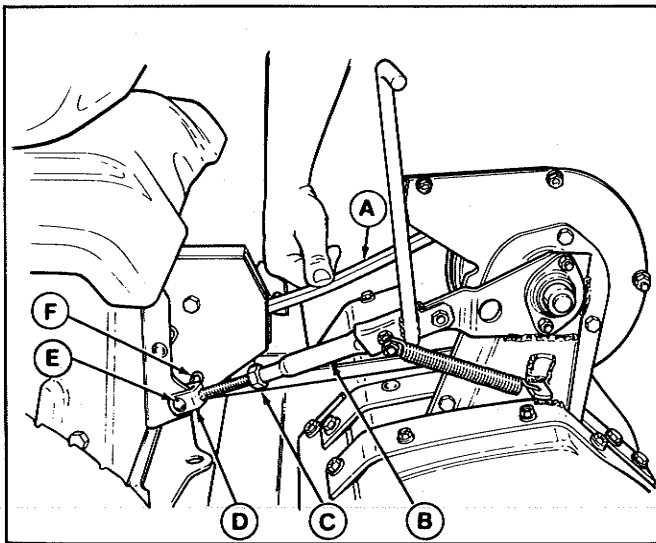

Figure 7. Belt Tension Adjustment
2. Press downward with your thumb on the exposed part of the belt (item A, figure 7). Thumb pressure should deflect the belt downward about 1/4 inch (6 mm). If not, proceed with the following steps.